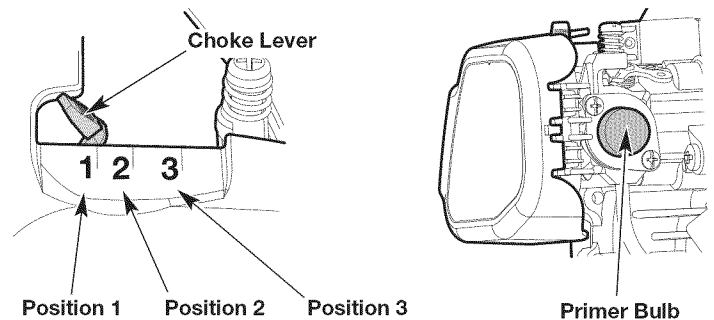

Fig. 13
3. Slowly press and release the primer bulb **10 times** (Fig. 13). If fuel cannot be seen in the primer bulb, press and release the primer bulb until fuel is visible.
4. Move the choke lever to **Position 1** (Fig. 13).
7. Continue to squeeze the throttle control. Move the choke lever to **Position 2** (Fig. 13).
10. Continue to squeeze the throttle control. Move the choke lever to **Position 3** (Fig. 13). Allow the engine to warm up for an additional 60 seconds. The unit may be used during this time.
IF... the engine hesitates, return the choke lever to **Position 2** (Fig. 13) and continue the warm-up.